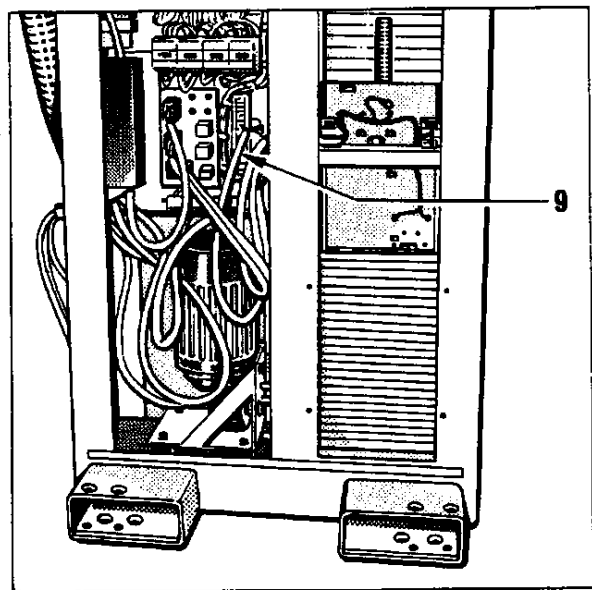

Fig.12
Make electrical connections between interface (Fig.12, item 9) of table base via generator and the filter of radio shielding . Reinstall all covers.